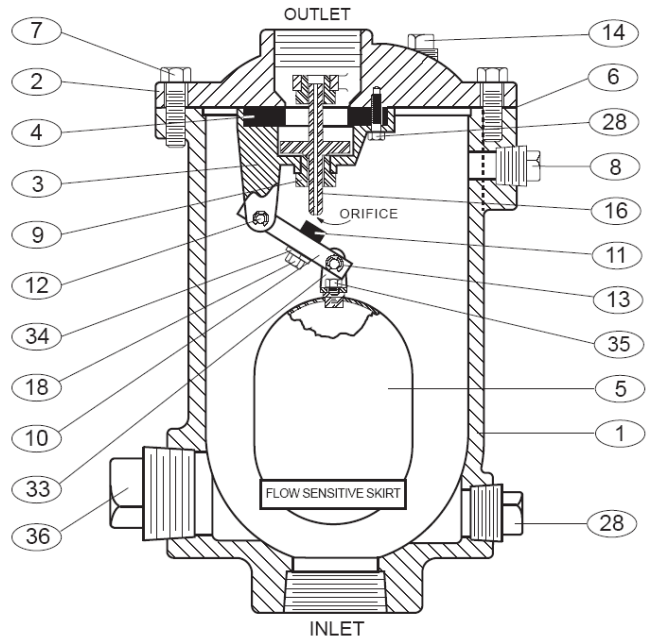
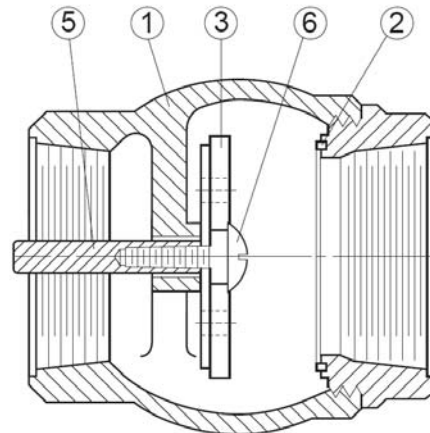
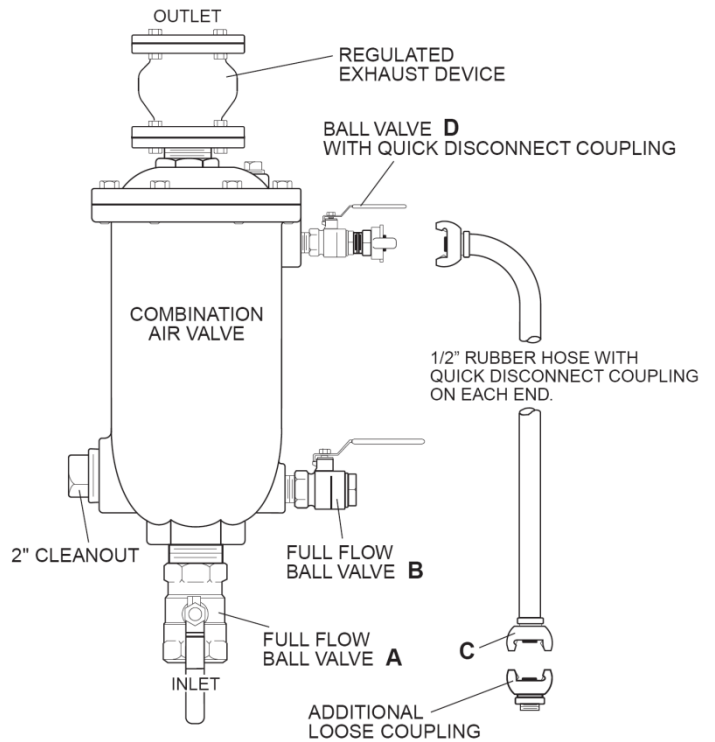

FIGURE 2. 1"-4" WASTEWATER COMBINATION AIR VALVE
FIGURE 3. 1"-2" REG. EXH. DEVICE
FIGURE 5. TYP. BACKWASH ARRANGEMENT
The standard Wastewater Surge Suppression Combination Air Valve consists of an air valve and a regulated exhaust device piped on the outlet. See the specific Materials List submitted for the order if other than standard cast iron construction. The general detail of construction for the air valve is illustrated in Figure 2 and listed in Table 1.
The general detail of construction for the regulated exhaust device is illustrated in Figures 3 and 4 and listed in Tables 2 and 3.
Refer to the Figure 5 for the correct piping arrangement. Please note the each kit contains extra fittings such as reducer bushings that may not be needed for your valve. The fittings should be installed with a standard pipe compound such as Oatey White Thread Sealant (supplied) or sealing tape. The quick disconnect fittings (Air King Universal Couplings) are designed for easy push and turn connections to a clean water source.
Backwash Procedure: In order to properly backwash the valve, a 1" clean water supply of at least 30 psi is needed. This supply should be connected to the rubber hose with quick disconnect couplings as provided with the wastewater valve and shown in Figure 5.
1. See Figure 3. Close inlet shut-off valve (A). Open drain valve (B) or remove drain plug. See Figure 5. Unscrew the Regulated Exhaust Device from the top of the valve. Remove the cover bolts (7) on the top cover of the air valve as shown in Figure 2.
2. Pry cover (2) loose with sharp chisel or screwdriver and lift off valve body. The float will be connected to the cover.
3. Remove the retainer screws (28) and inspect the seat (4) and button (11) for cracks in the rubber or wear in the sealing surfaces.
4. Remove the plug (16) from the baffle (3). The small orifice through the plug should be clean. The plug shaft and bushing (9) ID should be polished clean with 4x0 steel wool or 320 grit polishing compound.
5. Turn guide bushing (9) to remove it from the baffle. Remove the retainer rings (13) to disassemble the float arm assembly.
All parts must be cleaned and gasket surfaces should be cleaned with a stiff wire brush in the direction of the serrations or machine marks. Worn parts, gaskets and seals should be replaced during reassembly. Refer to Figure 2.
1. Apply Loctite 680 thread sealant to guide bushing threads (9) and thread bushing into baffle (3).
2. Lay seat (4), plug (16), and baffle (3) over inverted cover and fasten with screws (28) with maximum torque of 10 ft-lbs. Do not over tighten.
3. Assemble float (5) with Loctite 680 on the threaded connections of float retainer (17) and guide shaft retainer (35).
4. Insert pivot pins (12) through float arm (10) and fasten with retainer rings (13). Thread in orifice button (11) and secure with lockwasher (34) and lock nut (18). Adjust orifice button so that when float is seated against the plug, the button is centered.
5. Lay cover gasket (6) over body flange and secure with lubricated bolts (7) to the torque shown in Table 2.
6. Place valve back in service. Refer to the installation instructions on page 2. Slowly open inlet isolation valve A as shown in Figure 5.